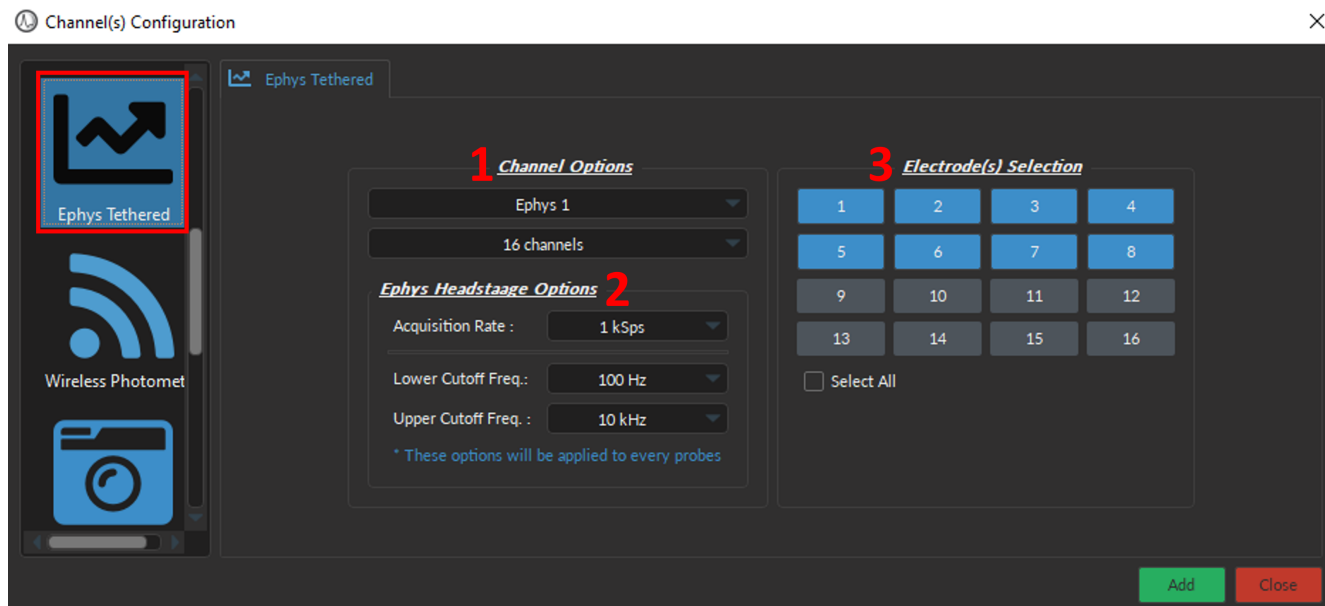

Figure 16.54: Channel(s) configuration, Ephys Tethered
1. The **Channel Options** (Fig. 16.54, 1) includes the following parameters:
2. The **Ephys Headstage Options** (Fig. 16.54, 2) includes the following parameters:
3. The **Electrode(s) Selection** (Fig. 16.54, 3) selects which of the total **Channel Number** are enabled (in blue). Allows users to disable (greyed out) broken electrode sites or electrodes that are not in the region of interest. No data will be collected from the disabled electrode(s). Use the **Select All** checkbox to enable all electrodes simultaneously.